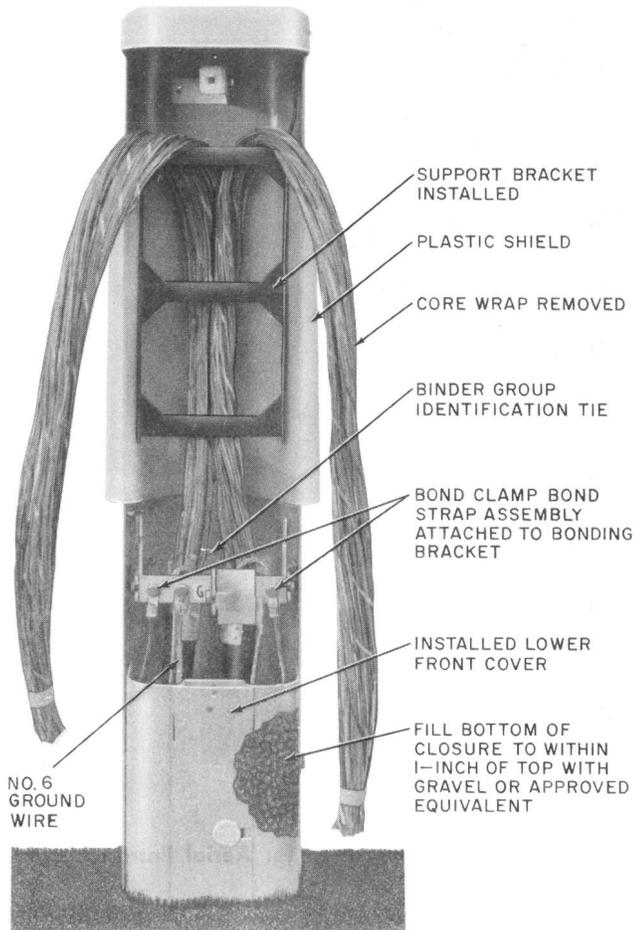

Fig. 14—Installed Cable Closure
4.10 Run a No. 6 ground wire from ground lug on backboard to power neutral ground (Fig. 14).
5.04 Loosen nut and install bond clamp-bond strap assembly on the cable as outlined in Section 081-852-118. Reinstall the bonding bracket and attach the bond strap to bonding bracket for completion of electrical bond as shown in Fig. 14.
5.05 Remove the core wrap from the cable. Using insulated wire having the same color as the binder, apply binder group identification ties near the cable butts at each end of the sheath opening (Fig. 14).
6.08 When the closure is used to house a splice only, place the cable over the splice support as shown in Fig. 14. The backboard can be left off if necessary to accommodate splice bundle.
6.09 Install binder group identification ties, using insulated wire having the same colors as the binders, as shown in Fig. 14.